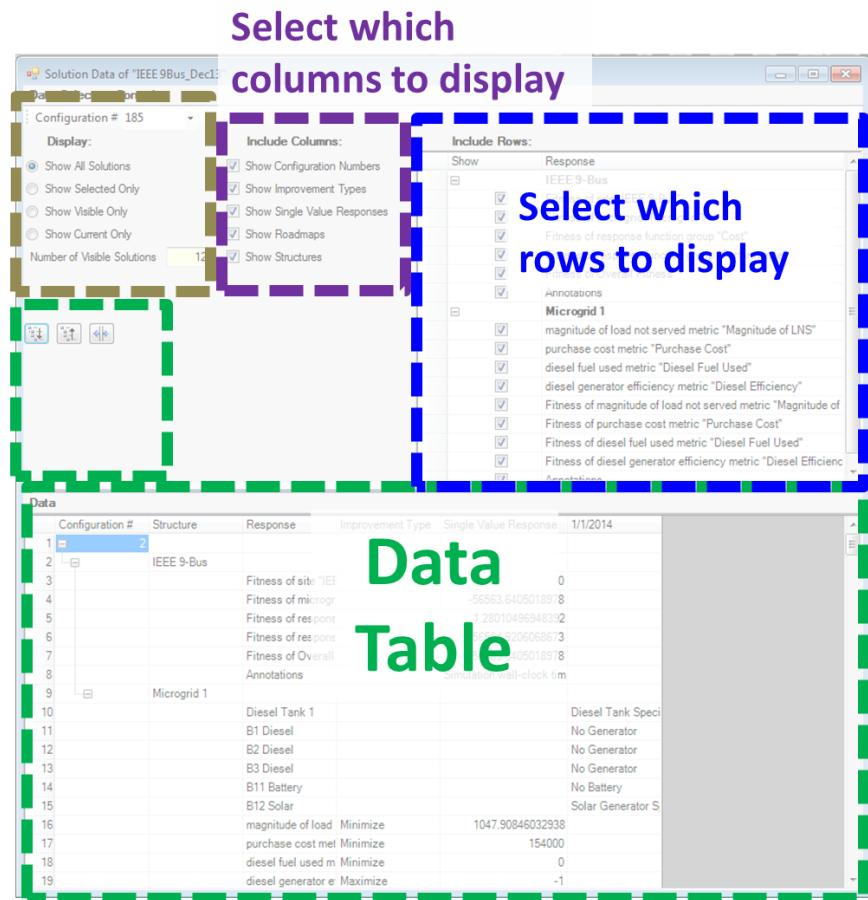

Figure 61. Overview of the Data Extraction plot.
Data Extraction allows you to extract the results data from MDT. A data table is displayed at the bottom of the window (highlighted in green in Figure 61). This data can be copy-and-pasted to Excel.
- The checkboxes on the left control which columns are displayed (highlighted in purple in Figure 61).
- The "Show – Response" checkboxes control which rows are displayed (highlighted in blue in Figure 61).
- The radio boxes on the left control which configurations are displayed (highlighted in brown in Figure 61).